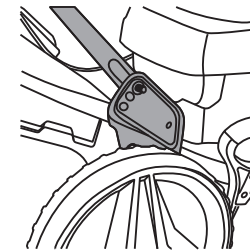

Fig. 10,
1. Release the mounting set (19), move the lower handle bar (7) to the desired position and fix it with the mounting set (Fig. 10, 11).